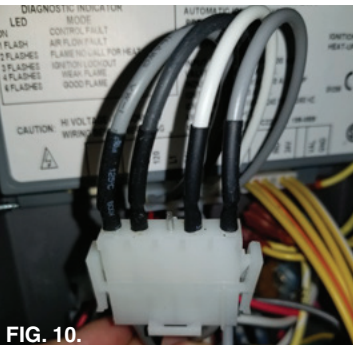

FIG. 10.
- Connect the Molex connector as shown in Fig. 10. Be sure the two end flat connections mate properly.